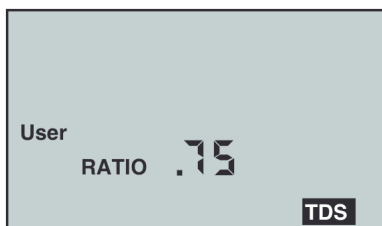

Figure 4
- b. Press  twice (to skip over tempco adjustment) and “**RATIO**” will appear (see Figure 4).